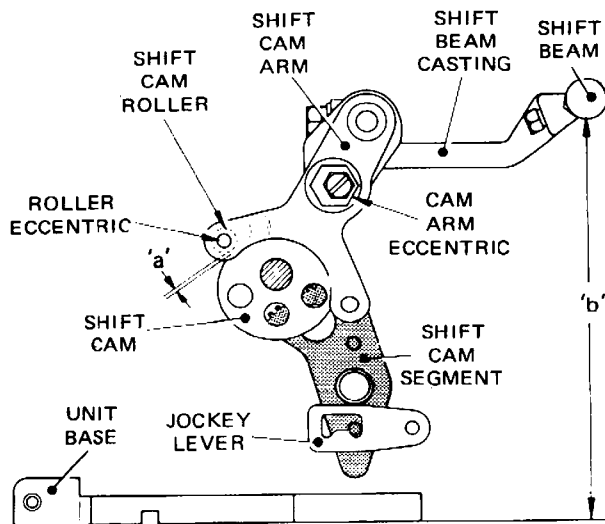

Fig. 4.1 SHIFT CAM MECHANISM (LEFT-HAND SIDE VIEW)
- 1.1 Locate the pin on the shift cam segment, Fig. 4.1, in the front recess of the jockey lever.
- 2.1 Set up the unit as in Check 1.1 above. Using gauge TA 1487A, check that there is a clearance of 3.086–3.096 inch (dimension 'b') between the underside of the shift beam, Fig. 4.1, and the unit base. If a flat surface is not available use the machine base.